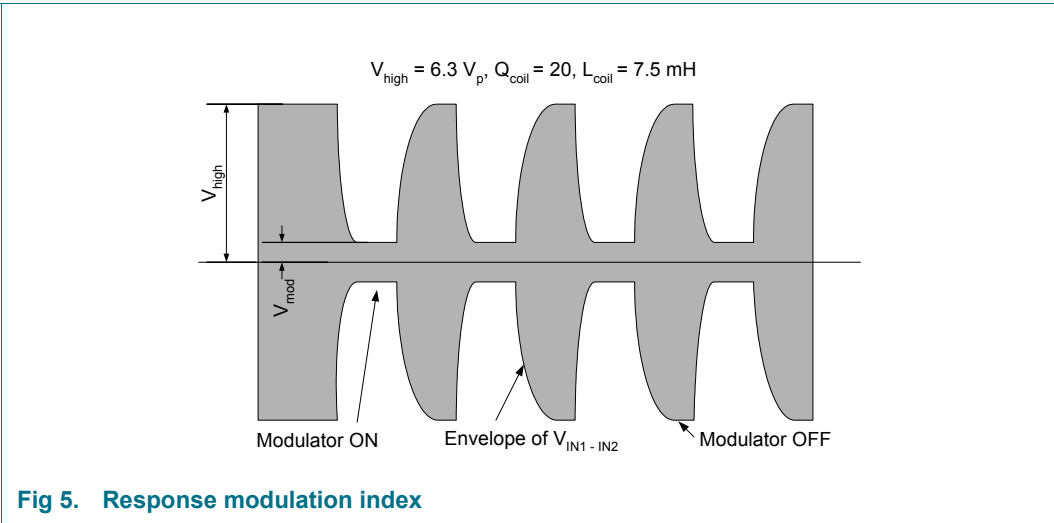

Fig 5. Response modulation index
- [5] Definition according to Figure 5